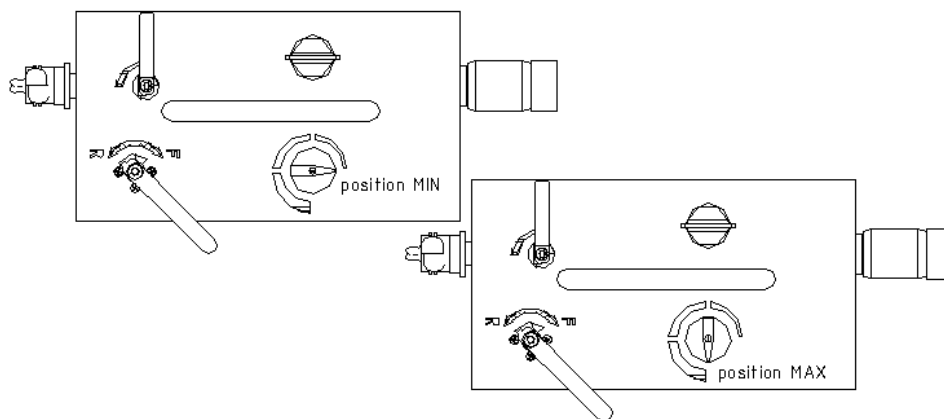

Figure 9.1.1
- turn the machine on for 20 seconds with maximum lubrication (Figure 9.1.1)
- turn the machine on for 30 seconds with minimum lubrication (Figure 9.1.1)